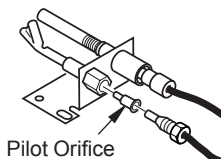

Figure 16 - Installing Propane/LP Pilot Orifice
1. Gently loosen and remove the pilot line connection from the bracket (see Figure 16).
2. Replace the injector with the propane/LP pilot injector with the red stripe (see Figure 16).